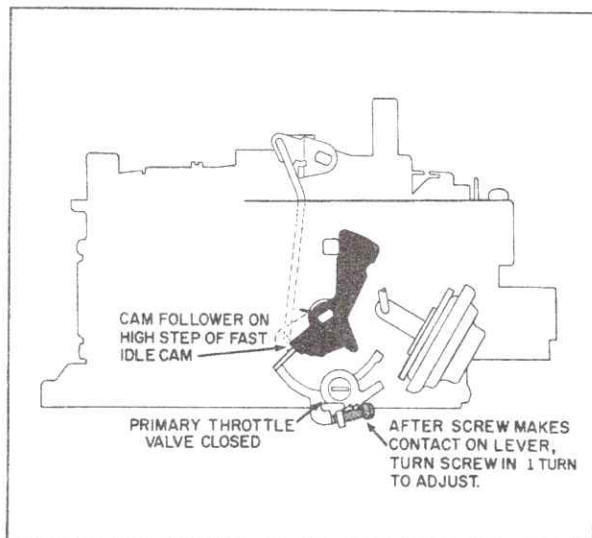

Fig. 6-95 Fast Idle Adjustment (Off Car)
## 77. Fast Idle Adjustment (Fig. 6-95)
1. With primary throttle valves completely closed and cam follower over high step of fast idle cam, turn fast idle screw in 1 turn after screw makes contact on lever, Fig. 6-95.